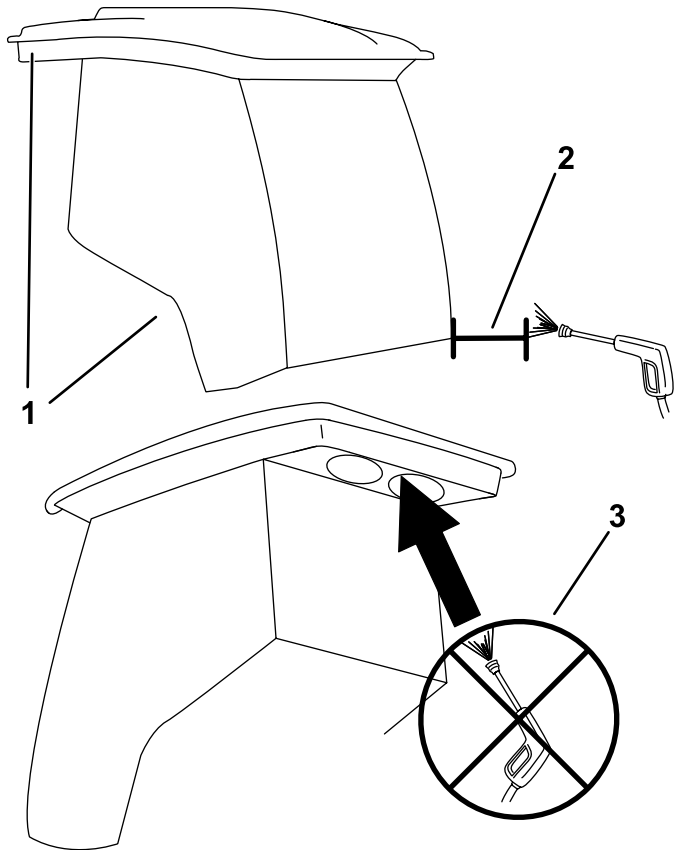

Figure 81
**Important:** Use care around the cab seals (Figure 81). If you are using a pressure washer, keep the washer wand at least 0.6 m (2 ft) away from the machine. Do not use the pressure washer directly on the cab seals or under the rear overhang.